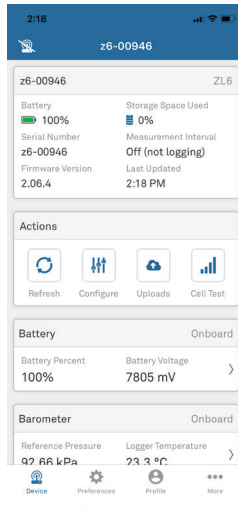

Figure 10 Select Configure
4. Select Configure on the Actions panel (Figure 10).